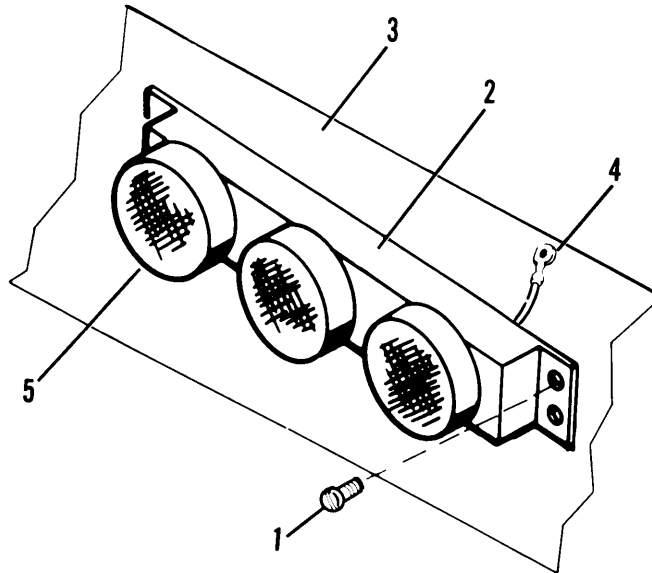

Figure 4-14. Bar Lamp Assembly (M871 only)
- (1) Remove four screws (1, fig. 4-14) and ease bar lamp assembly (2) from rear of semitrailer (3).
- (2) Remove ground strap (4) from screw (1).
- (3) Disconnect wiring.
- (1) Turn light (5, fig. 4-14) approximately one quarter turn counterclockwise and pull the light (5) straight out from the bar assembly (2). Remove the other two lamps the same way.
- (1) Install light (5, fig. 4-14) and rotate one-quarter turn clockwise. Install the other two lights to the assembly the same way.
- (1) Connect wiring.
- (2) Install ground strap (4, fig. 4-14) to one of the screws (1).
- (3) Install bar lamp assembly (2) into position and secure with four screws (1).
- (4) Connect electrical power and test for proper operation.